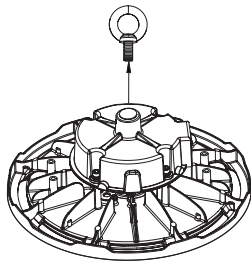

FIG. 4
- Remove the eye-bolt from the driver. (Fig. 4)